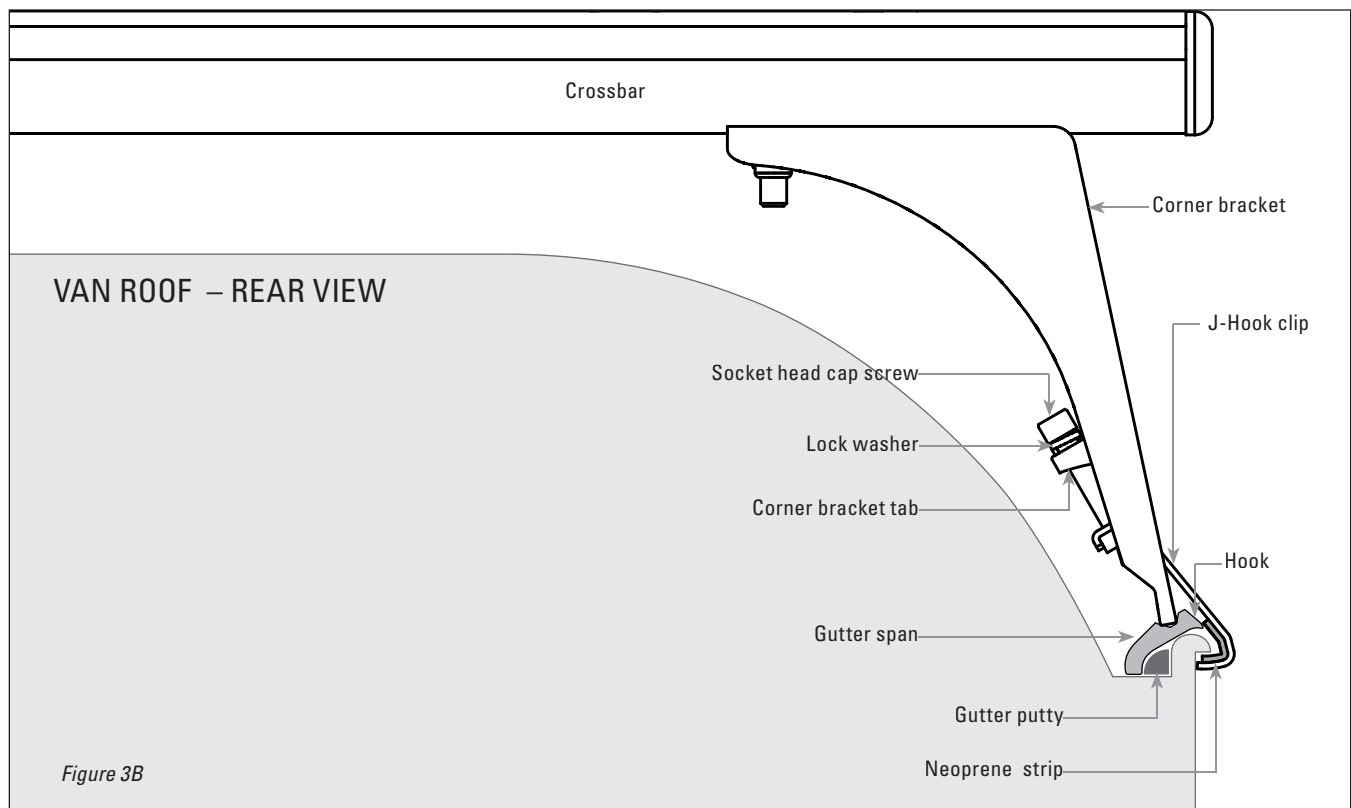

Figure 3B
9. Slide 2 Gutter Spans under each Corner Bracket so that they line up under the slots as shown, with the “V” Groove facing up. The “Hook” of the Gutter span must engage the upper edge of the gutter, with the opposite end positioned in the middle of the gutter groove (see Fig 3B).
10. The lower edge of each Corner Bracket fits snugly into the top of the Gutter Span. Place the J-Hooks around the outside edge of rain gutter (see Fig 3B).